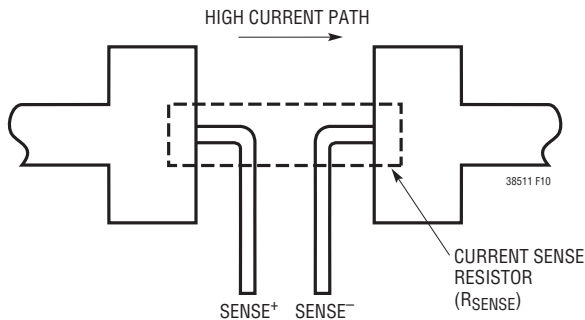

Figure 10. Kelvin Sensing  $R_{SENSE}$
3. Are the SENSE- and SENSE+ leads routed together with minimum PC trace spacing? The filter capacitor between SENSE+ and SENSE- should be as close as possible to the LTC3851-1. Ensure accurate current sensing with Kelvin connections as shown in Figure 10. Series resistance can be added to the SENSE lines to increase noise rejection and to compensate for the ESL of  $R_{SENSE}$ .